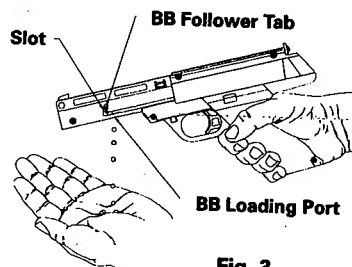

Fig. 3
- Point the barrel downward slightly and shake it. The BB's will drop out of the loading port. (Fig. 3)